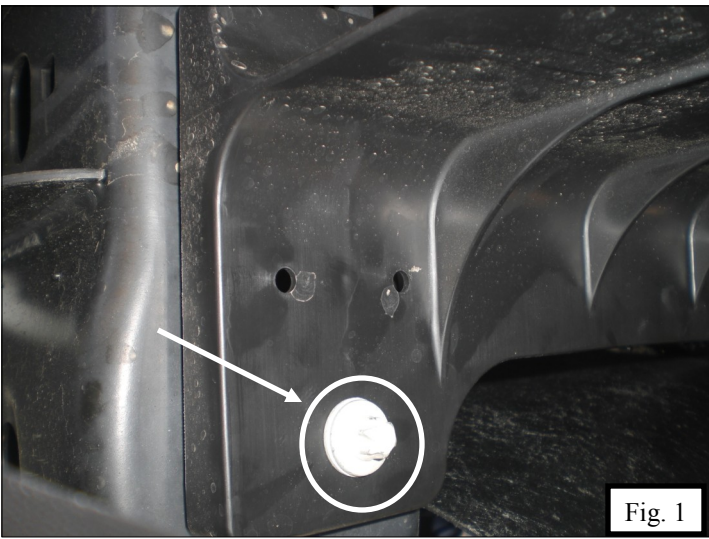

Fig. 1
2. Remove the splash guard located in front of the vehicle by removing two factory bolts. (Fig.1)